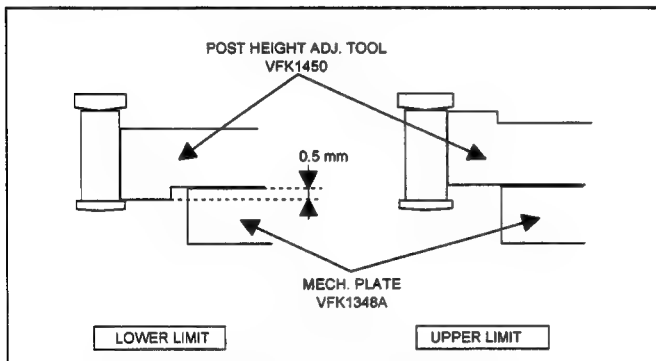

Fig. M-6
3. Place the Post Height Adj. Tool (VFK1450) on the Mech. Plate as shown in Fig. M-6 and adjust the T4 post height by using the Box Driver (VFK1151).